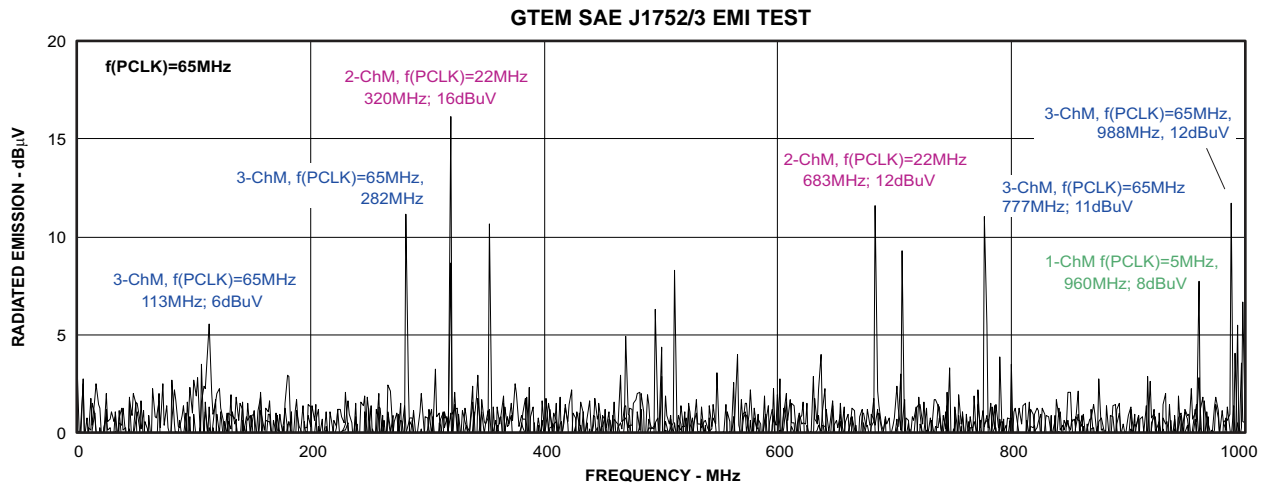

Figure 35.
- A. **Figure 35** shows a superimposed image of three EMI measurements with the device operating at $f(\text{PCLK}) = 5\text{MHz}$, $f(\text{PCLK}) = 22\text{MHz}$, and $f(\text{PCLK}) = 65\text{MHz}$. This excellent EMI performance meets the system requirements of dense, mobile designs with a noise floor of $\sim 2\text{ dB}\mu\text{V}$ ($\sim 105\text{ dBm}$) and all spurs being smaller than $16\text{ dB}\mu\text{V}$ ($\sim 101\text{ dBm}$). The test was performed in compliance with the SAE J1752/3 EMI test guidelines.